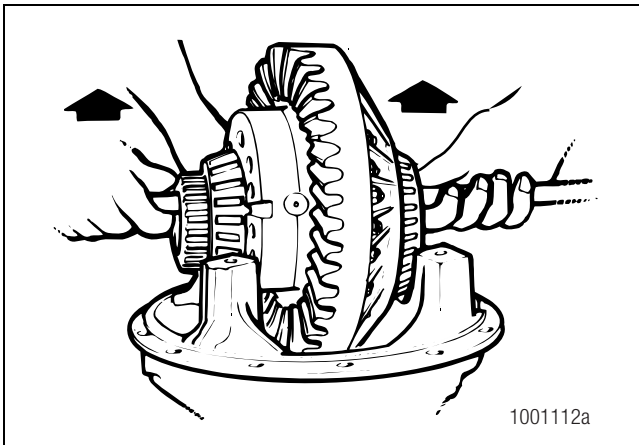

Figure 6.6
- Lift the differential and gear assembly from the carrier. Tilt the assembly as required to permit the ring gear to clear the support for the pinion spigot bearing. Figure 6.6.